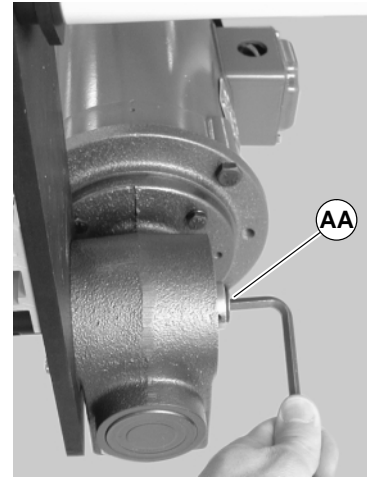

Figure 16
2. Loosen M10 shaft locking screw (AA of Figure 16).